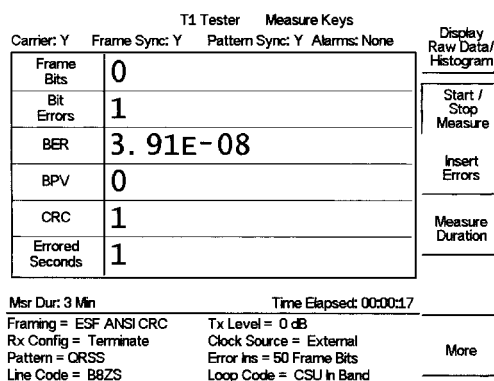

Figure 7-8. T1 BERT Measurement Display
- Step 2.** Press the Measure Duration soft key and use the Up/Down arrow key to select the duration of the measurement, and press **ENTER**. Figure 7-8 displays the T1 measurement in raw data mode.